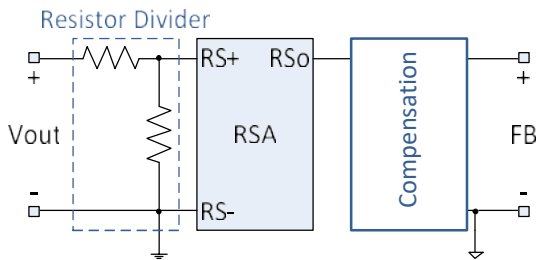

Figure 12: General Remote Sense Configuration
There are two remote sense configurations that are usually implemented. Figure 12 shows a general remote sense (RS) configuration. This configuration allows the RSA to monitor output voltages above